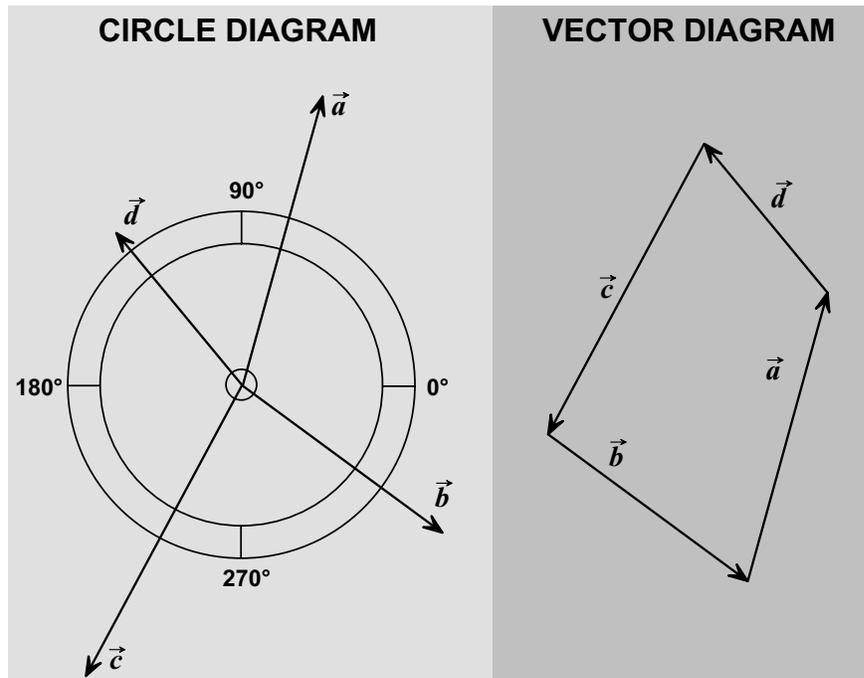

Figure 4
- Carefully draw the vector addition diagram (see figure 4). Note that your diagram may not close due to small errors.